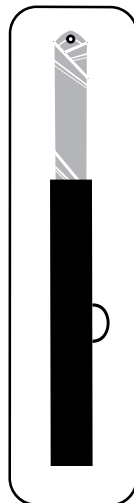

Fig. 10: Sleeve end first into bag.
- Insert your sail sleeve-end first into the sail bag (fig. 10).